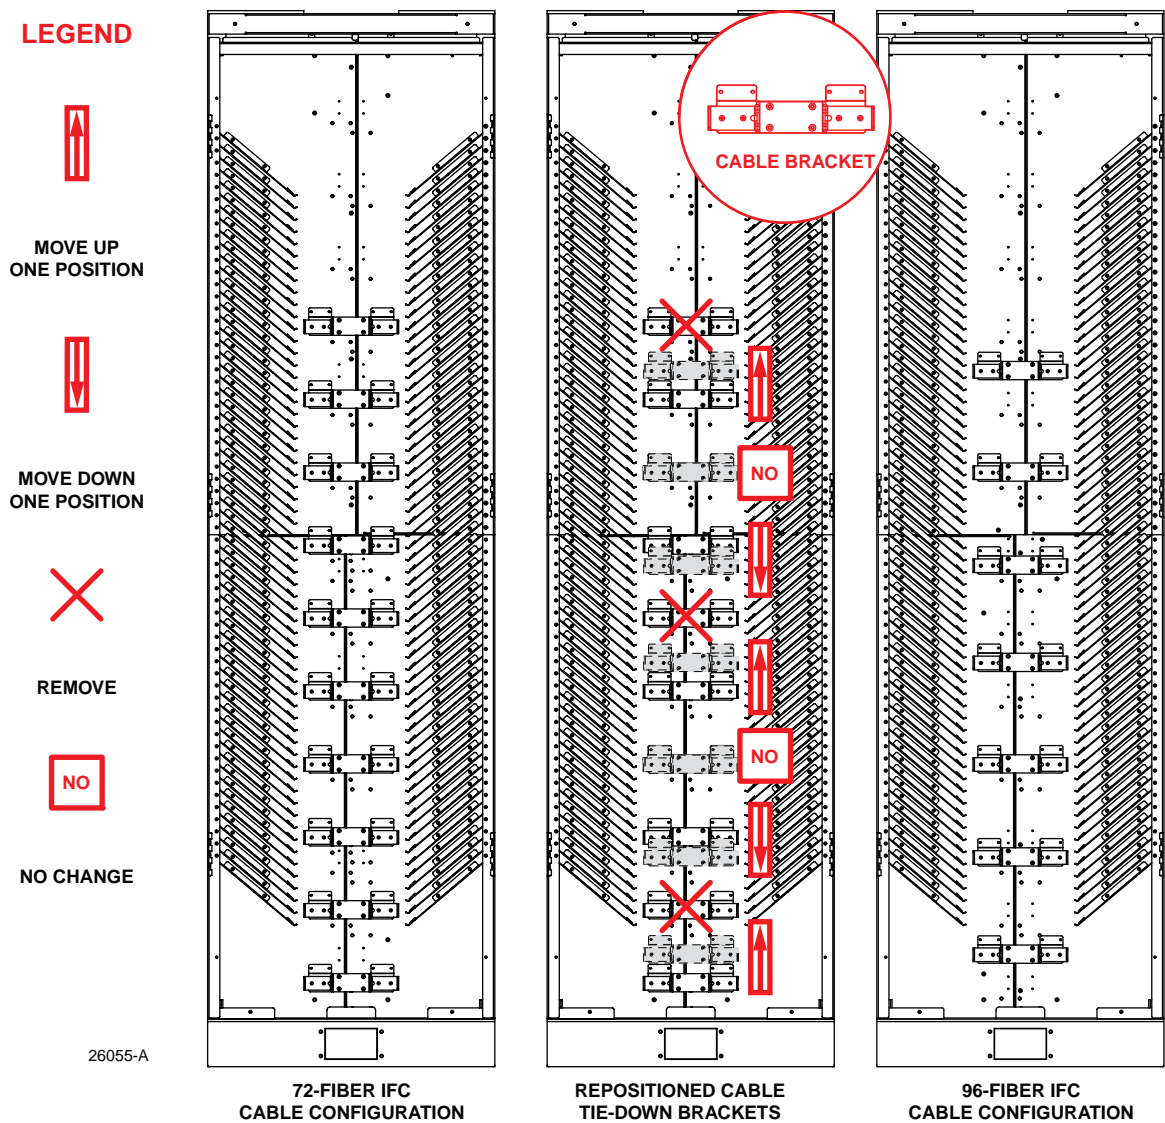
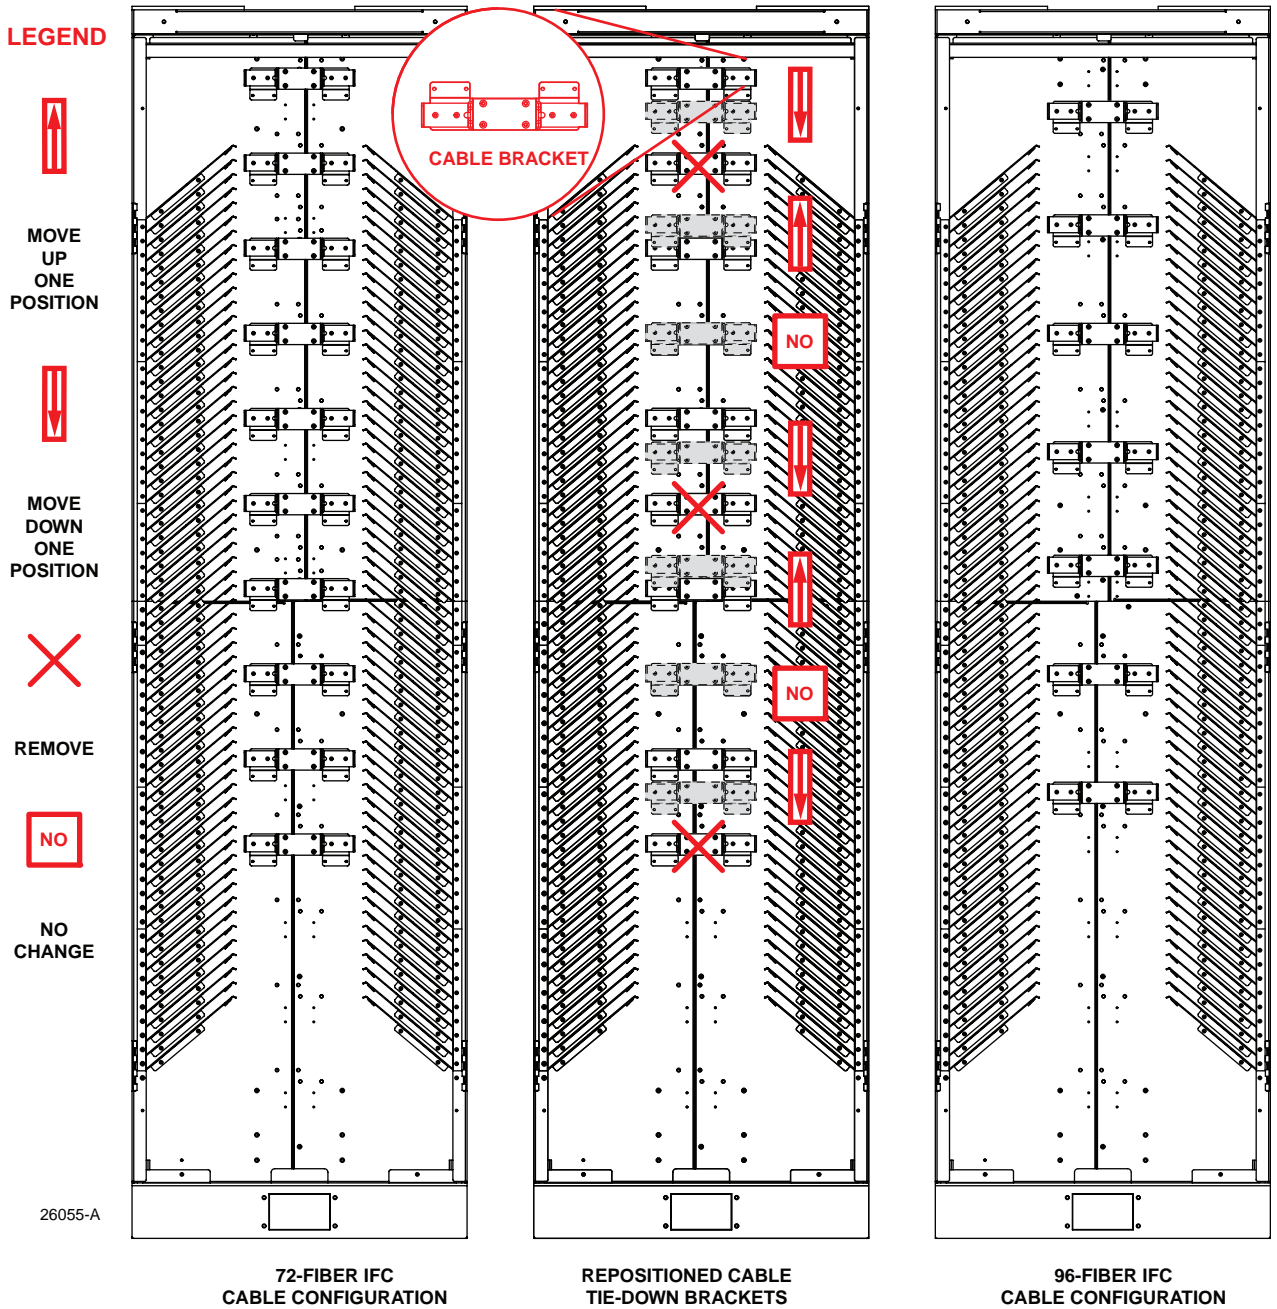
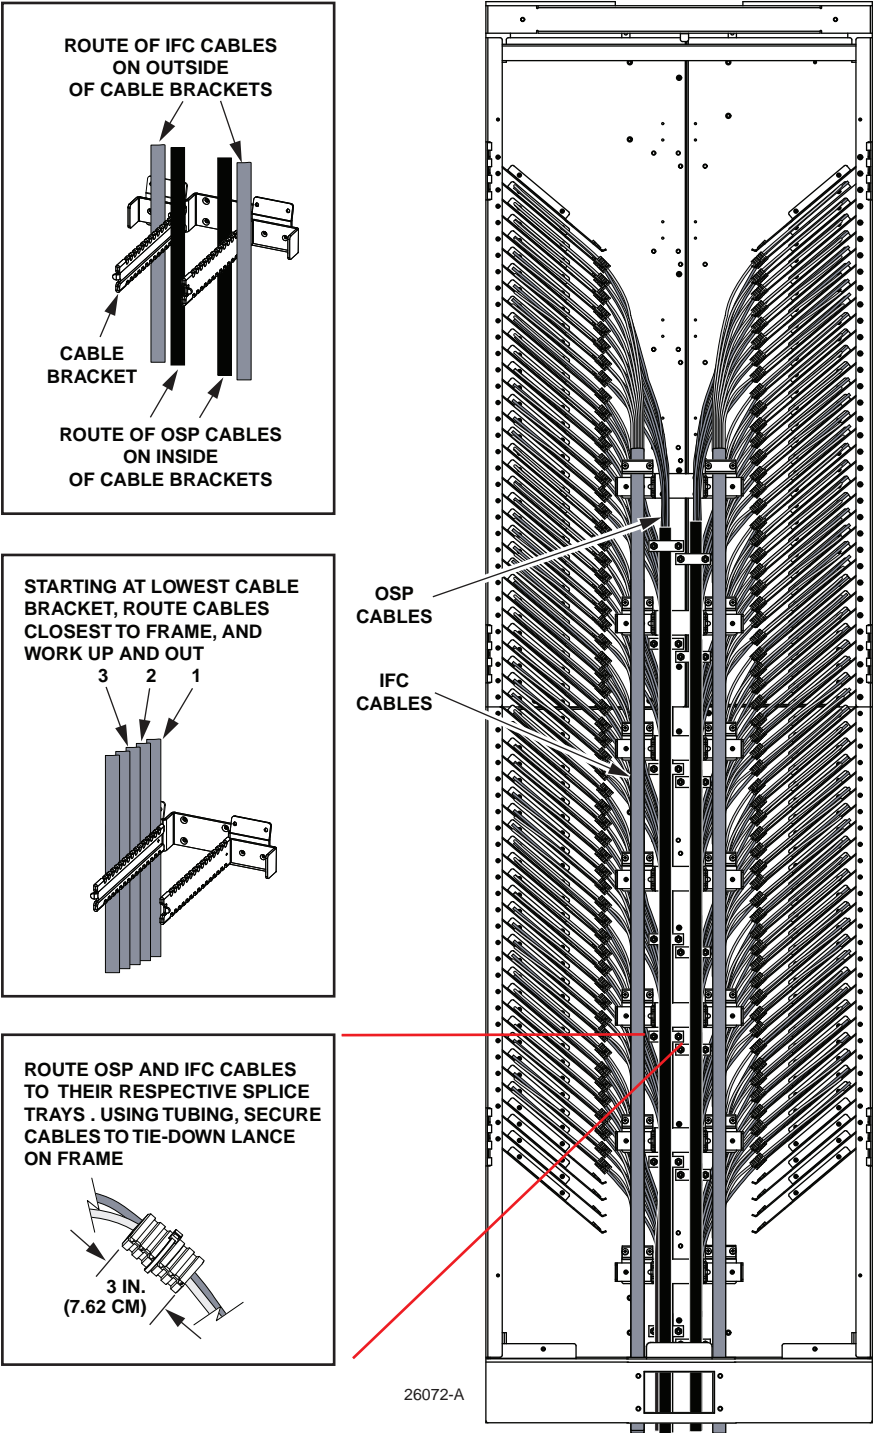

Figure 2. 72- to 96-Fiber IFC Frame Re-Configuration, Raised Floor Cable Environment (Shown without Front Doors) (Front View)
Figure 3. 72- to 96-Fiber IFC Frame Re-Configuration, Overhead Cable Environment
Figure 19. Fully Cabled Splice Bay (Front View, 96-Fiber IFC Configuration)
The OMX600 Splice Bay provides a splicing location for OSP (outside plant) and IFC (intrafacility cable) cables and can accommodate up to 120 round splice trays (1440 splices). The standard version's cable clamp positions also can be custom configured. For IFC counts in multiples of 72 (as shipped), use the 72-fiber IFC configuration (Figure 2 or Figure 3, depending on cable origin, left view); for IFC counts in multiples 96, use the 96-fiber IFC configuration (Figure 2 and 3, depending on cable origin, right view). For IFC counts in multiples of 96, reposition cable brackets as shown in Figures 2 and 3, depending on cable origin.
Figure 19 shows an example of a fully cabled splice bay (front view). Refer to Figure 2 on Page 2 to configure the bay from a 72-fiber to a 96-fiber configuration.
1. Refer to Figure 3 on Page 3 to configure the bay from a 72-fiber to a 96-fiber configuration.